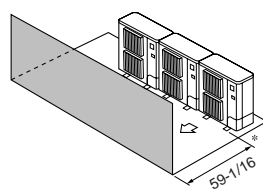

Fig. 2-10
- ③ Obstacles at front only (Fig. 2-10)